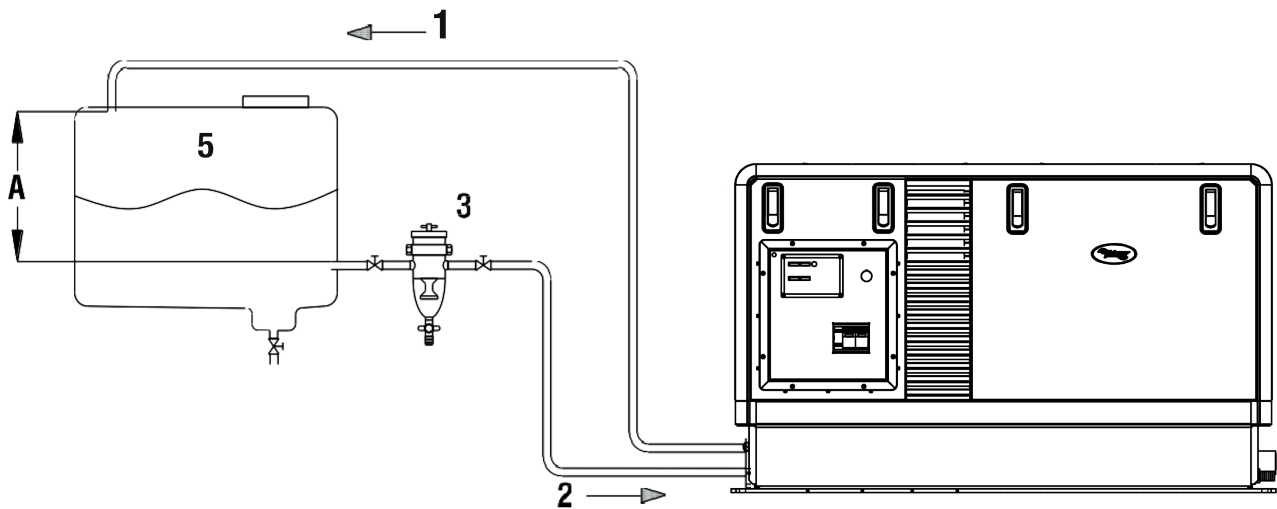
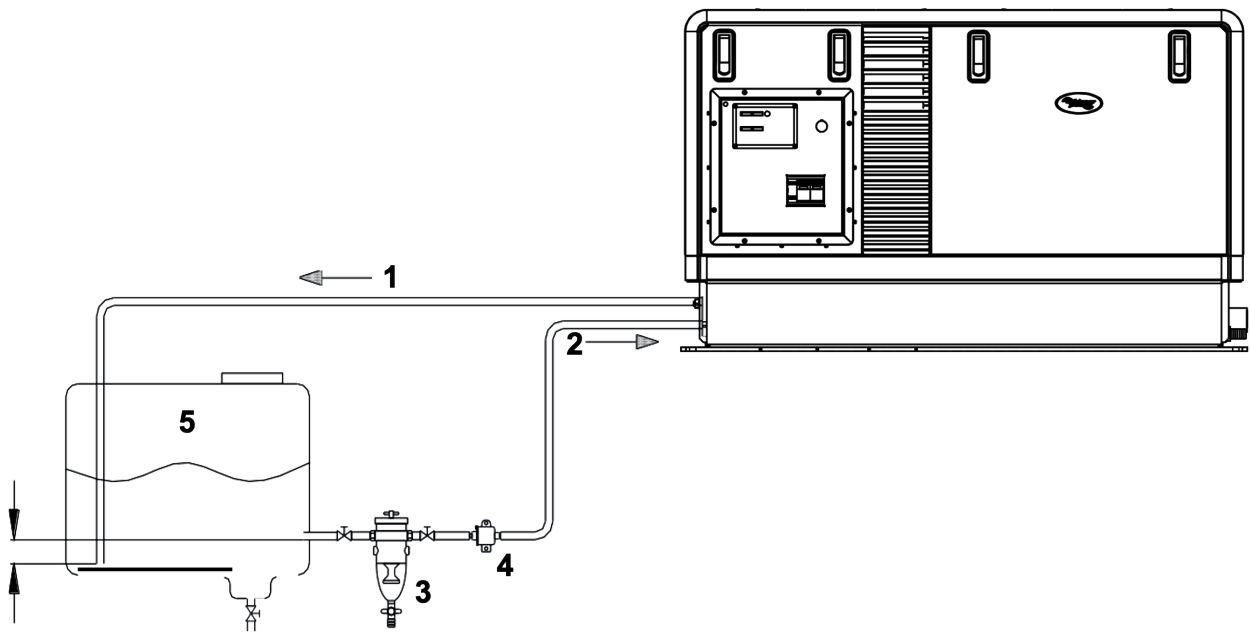

Fig. 3: Fuel supply
Fig. 4: Fuel supply
When the return is on the top- in case of a leakage the return line cannot overflow because of siphoning. One will only need a fuel cock in the fuel supply line (see figure 3). When the tank is below the generating set we recommend ending the return line on the bottom of the tank (A) below the inlet of the supply line (see figure 4)